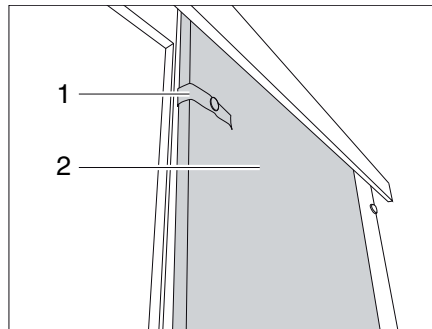

Fig. 80 Sliding door
- Release the securing strap (Fig. 80,1).
- Pull the sliding door (Fig. 80,2) into the closing position.
- Push the sliding door (Fig. 80,2) into the open position.
- Secure the sliding door with the securing strap (Fig. 80,1).